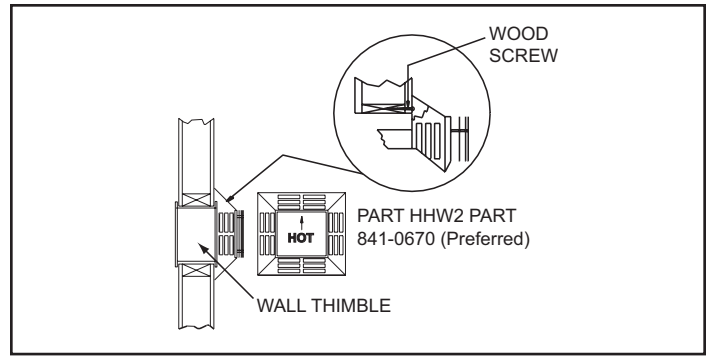

Figure 5.6
**Step 4** - Position the horizontal termination cap in the center of the 10 in. x 10 in. (254mm x 254mm) square hole and run a bead of non-hardening mastic around its outside edges, so as to make a seal between it and the wall, attach termination cap to the exterior wall with the four wood screws provided. The arrow on the vent cap should be pointing up (Figure 5.6).